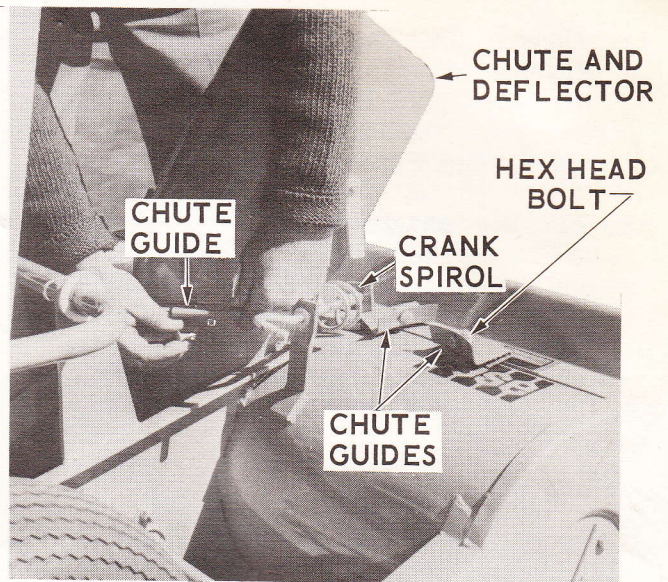

Figure 14.
9. See Figure 14. Individually align the two side chute guides with the square holes in the discharge spout and secure with round head bolts. Install the bolts with the round head at the inside of the discharge spout.
2. Three round head bolts are furnished to attach the chute guides to the discharge spout instead of two as shown in Figure 14. Install the bolts at the two side guides with the round heads to the inside. For ease of assembly, install the front guide bolt with the nut and lock-washer to the inside.